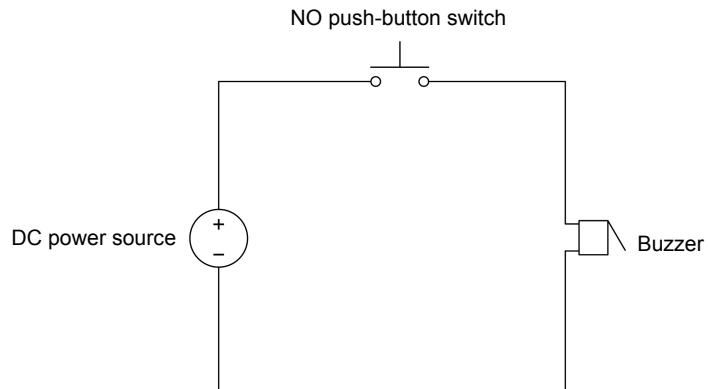
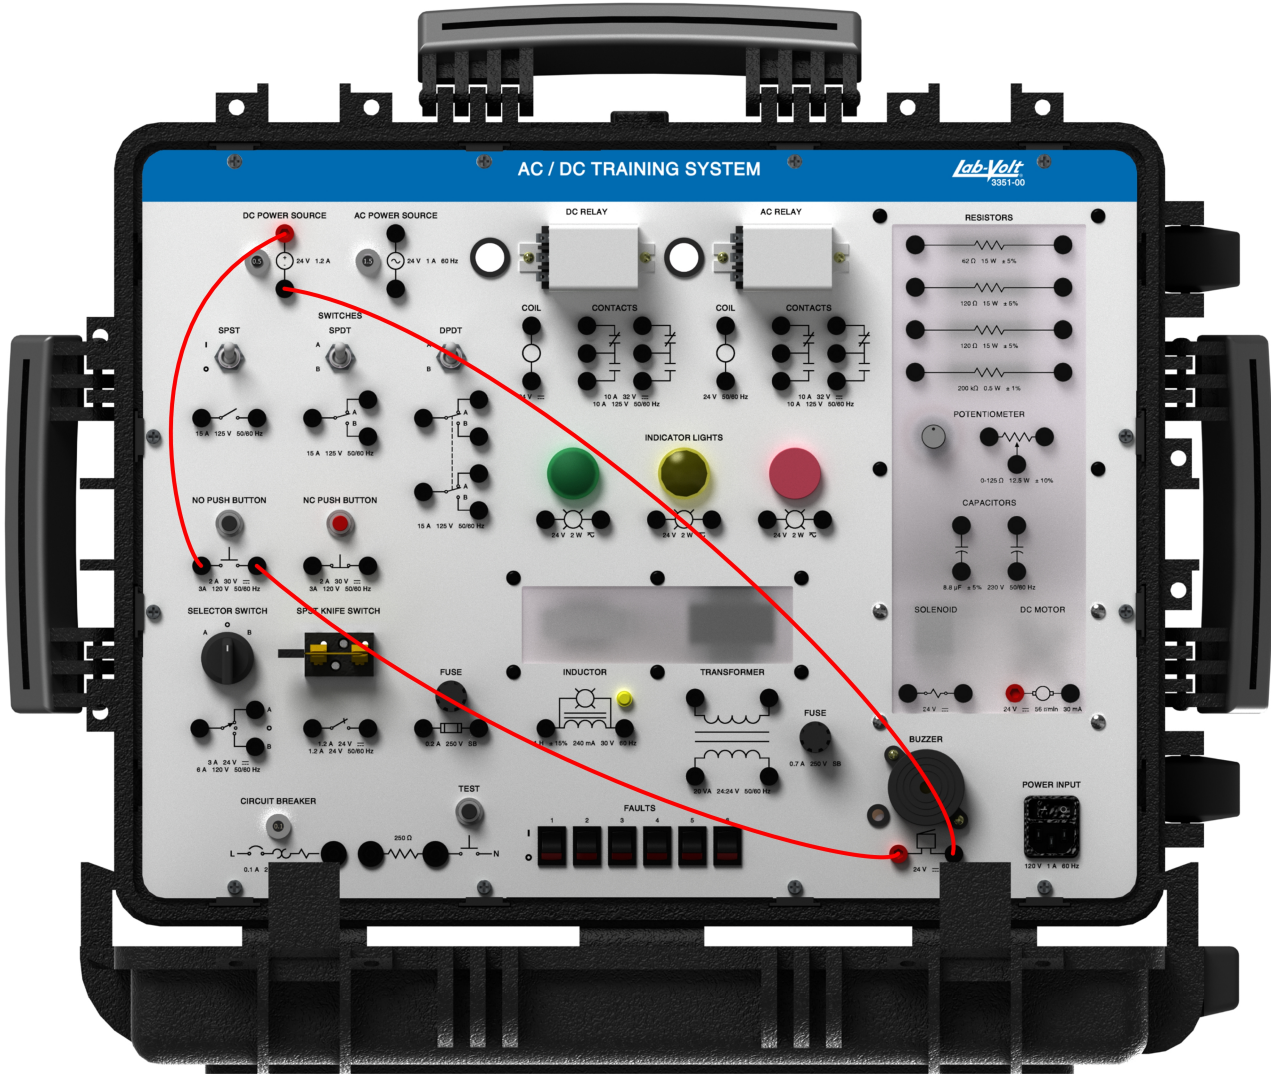

Figure 39. Car horn circuit (circuit diagram).
Figure 40. Car horn circuit (wiring diagram).
- 35.** Connect the circuit shown in Figure 39. This circuit represents the circuit in a car horn. Figure 40 shows the corresponding wiring diagram.
Based on your observations, can you conclude that the circuit in Figure 39 operates just as the circuit in a car horn?